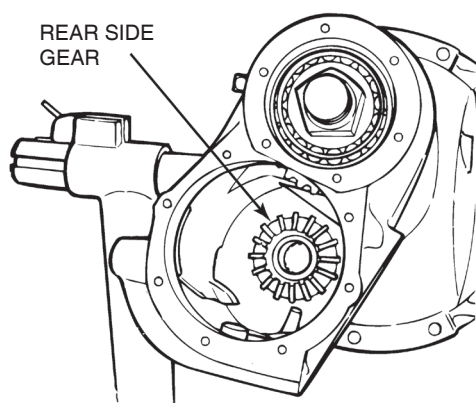

Figure 5.78
3. Install the rear side gear and bearing assembly through the clutch collar and into the differential case. Figure 5.78.